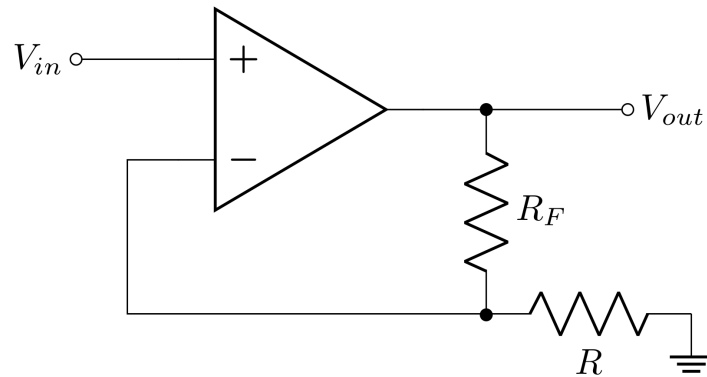

Figure 2: Non-inverting amplifier
Two basic op-amp circuit configurations, the non-inverting amplifier and the inverting amplifier, are shown in Figures 2 and 3, respectively. Both circuits use **negative feedback**, which means that a portion of the output signal is sent back to the negative input of the op-amp through the feedback resistor
1. Calculate the values of the low frequency gain G_0 and bandwidth f_B for the non-inverting amplifier in Figure 2 for the following two circuits you will build in lab.